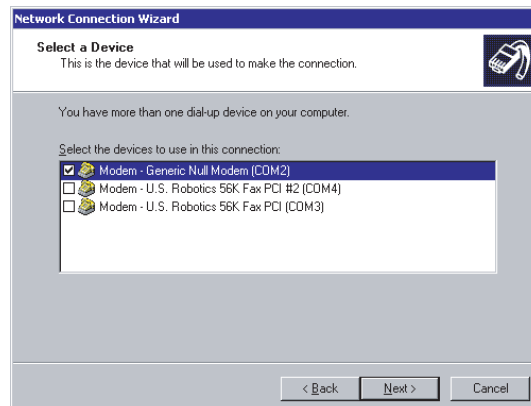

Figure 3.17: Windows 2000 Select a Device
- Select the particular modem installed on your PC, shown in Figure 3.17:.